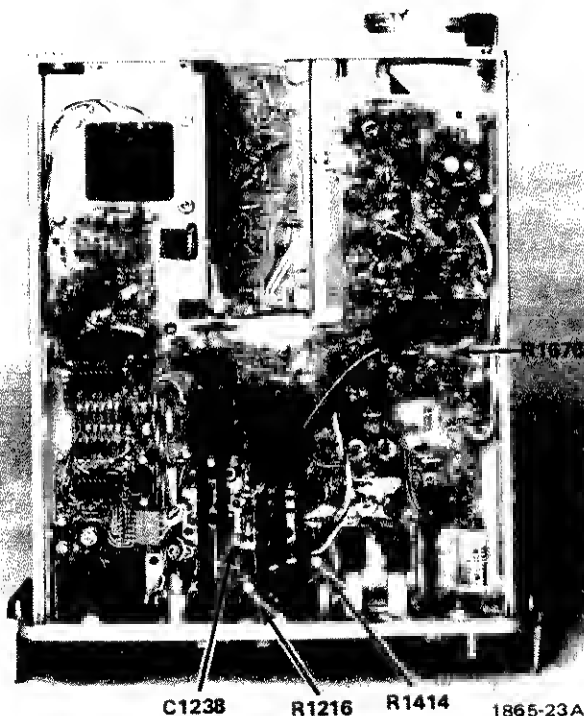

Fig. 4-5. Fast Ramp test point.
a. Connect the test oscilloscope test probe to the front lead of C1238 (see Fig. 4-5).
c. ADJUST—R1676 (RAMP PEAK) for a peak-to-peak amplitude of 6 V, ± 0.2 V with the ramp beginning at an approximate -2 V level and ramp ending at an approximate $+4$ V level (see Fig. 4-5).
g. ADJUST—R1216 (FT/DIV CAL) for eight time marks in 7.9 divisions (see Fig. 4-5).
e. ADJUST—R1414 DIST CAL to position the leading edge of the pulse on the second graticule line (see Fig. 4-5). Check that the pulse is at the same point on the graticule when the ZERO REF CHECK button is pressed.